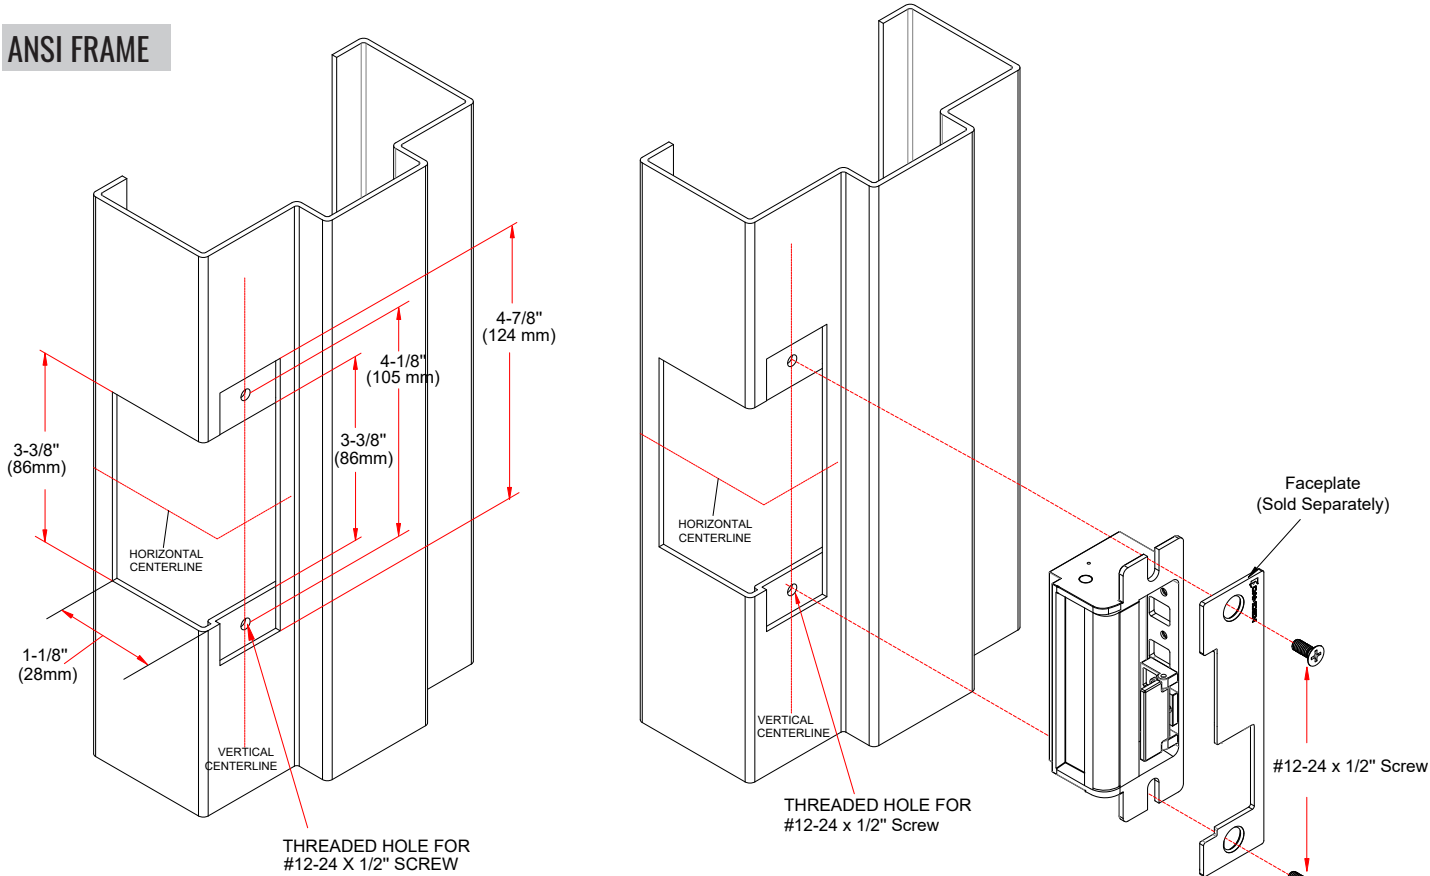

Figure 6.1 Cutout dimensions
1. Check that the door jamb has a cutout that fits the strike assembly. If not, refer to figure 6.1 for guidance.